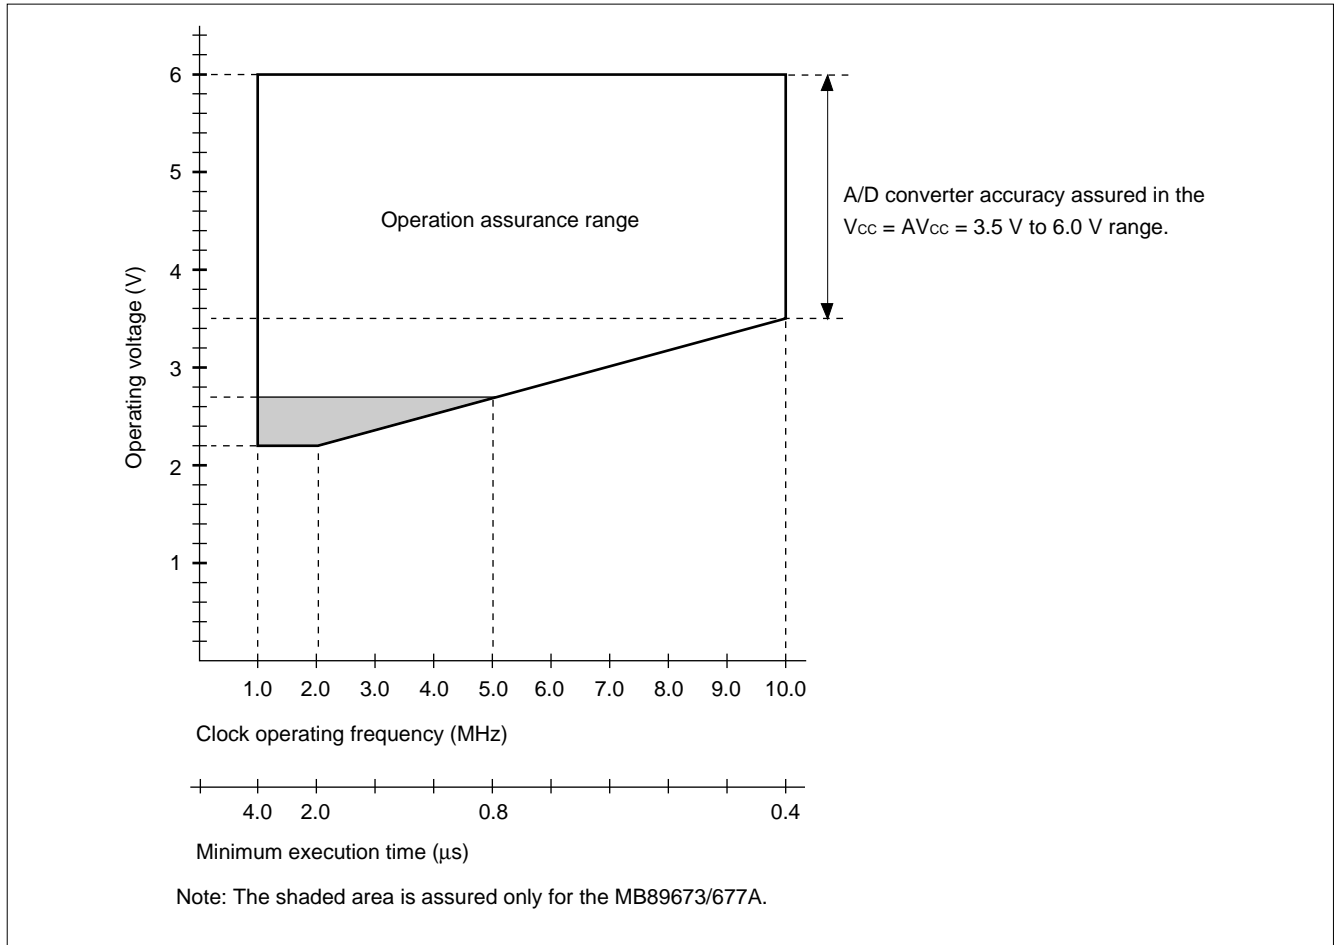

Figure 1 Operating Voltage vs. Clock Operating Frequency
* : These values vary with the operating frequency, and analog assurance range. See Figure 1 and "5. A/D Converter Electrical Characteristics."
Figure 1 indicates the operating frequency of the external oscillator at a minimum execution time of $4/F_c$.